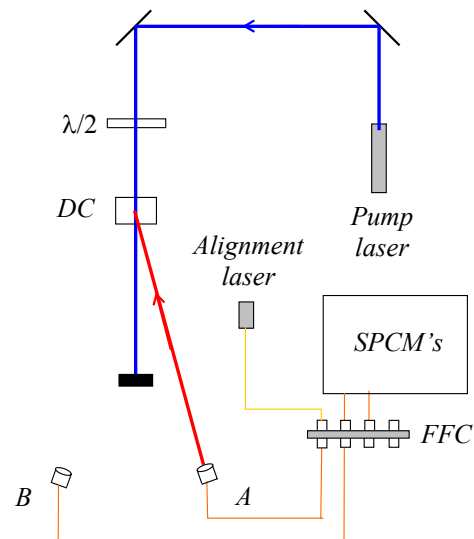

Fig. 7. Using the alignment laser. It should travel backwards from the collection optics, and onto the downconversion crystal.
- When you first get to the lab, the fiber from the collection optics for the A-detector should be connected to a fiber-coupled laser, as shown in Fig. 7.
- The fiber from the **B** collection optics leads to a fiber-fiber connector, where it joins another fiber which leads to the filters and a SPCM. Unscrew the fiber coming from the **B** collection optics, and connect it instead to the fiber leading from the alignment laser (similar to Fig. 7, but with **B** connected instead of **A**). **Take care when you do this.**